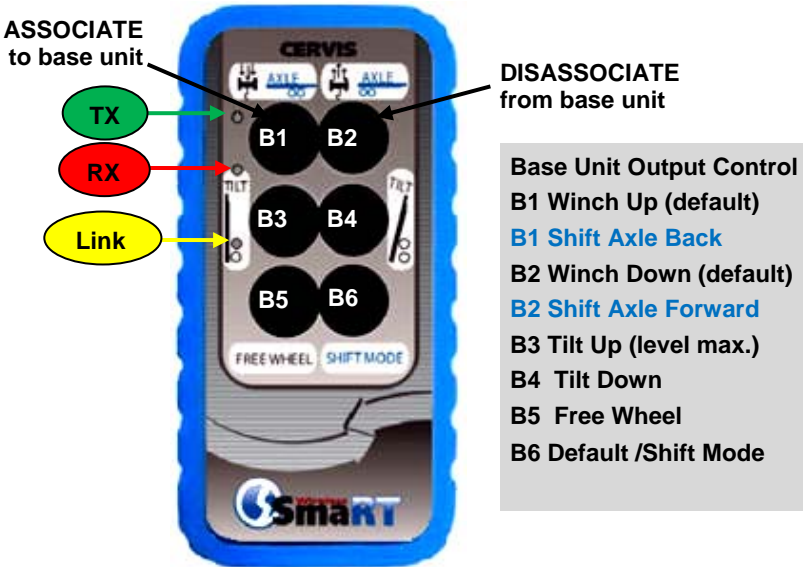

Figure 8. XL Handheld Remote Front Panel
The front panel of the SmaRT PTO-906-XL Handheld Remote has six (6) buttons and three (3) diagnostic LEDs. PTO-906-XL buttons are Push-To-Operate (PTO) and/or latching. PTO buttons 1 and 2 have multiple functions as described in Figure 8 and Table 1 below. Each button has an area adjacent to it in which descriptive icons and text are printed.